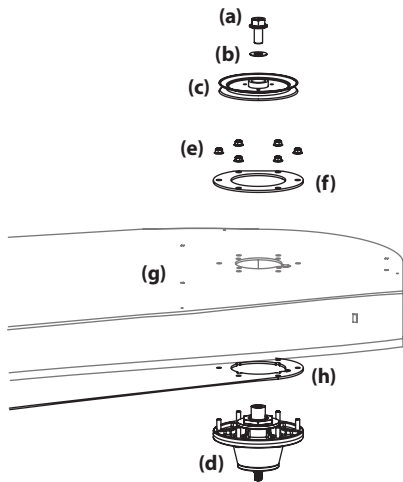

Figure 4-26
- Remove the hex flange bolts (a) and flat washers (b) securing the left and right spindle pulleys (c) to the spindle assembly (d). See Figure 4-26.
- Remove the six (6) flange lock nuts (e) securing the left and right spindle assemblies (d) and the support plates (f) to the deck shell (g). See Figure 4-26.
- Reverse the process to install the spindle assembly. When installing the new spindle assembly be sure to install the hardware exactly as shown in Figure 4-26. Torque the hex flange bolts to 250 ft-lbs and the flange lock nuts to 21-32 ft-lbs.